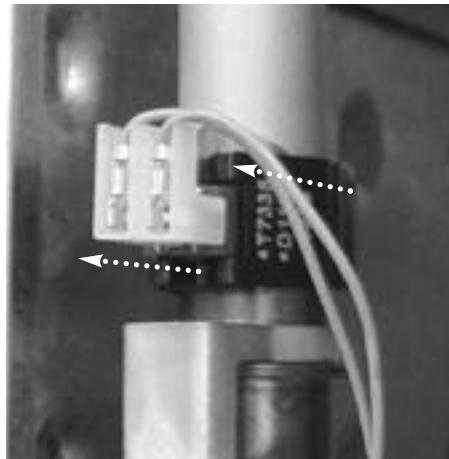

Fig. 100
2. Pull off the NTC connections. Then remove the NTC from the pipe by releasing its securing clip (see Fig. 100).